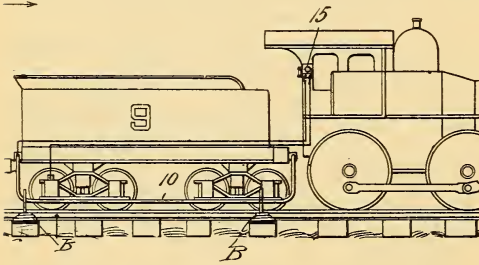

FIG. 1.
Looking at Fig. 1 it will be noted that there is a horizontal bar or shoe (10) of metal attached to the side of the tender and extending its whole length. This bar may be lowered so as to make electrical connection with little coil-spring metals standards (B) set on the ties beside the track. The distance between these standards is a little less than the